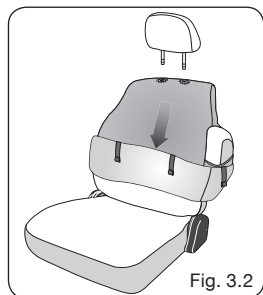

Fig. 3.2
2. If you have adjustable headrests that can be removed, then first remove the headrests, install the backrest cover, and then reinstall the headrests. There should be either 1 large hole, or 2 small holes at the top of the backrest cover (Fig. 3.2) for the headrest posts to fit into. (See the back page for tips on removing headrests.)
You may find it helpful to position the backrest cover by rolling it back on itself while positioning the top half on the seat back. If you have an armrest, there will usually be an elastic opening which you can place over the armrest when pulling the backrest cover down. Then unroll the seat cover down along the rest of the backrest (Fig. 3.2). Be sure to pull the cover at all points so it fits snugly. Feed elastic straps or sewn-in loops sewn at the bottom of the backrest cover through the space between the seat bottom cushion and the seat back. Then attach the straps or loops to each other or down and under the seat cushion (See drawings on next page).